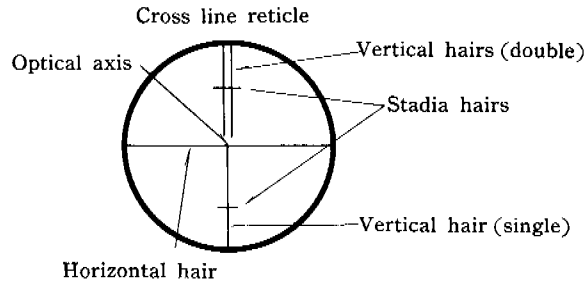

Fig. 6
- * Even when not focussing for reading the vertical circle, focus the object around the optical axis. For focussing a bigger object, align it between the double vertical hairs. (Fig. 6)